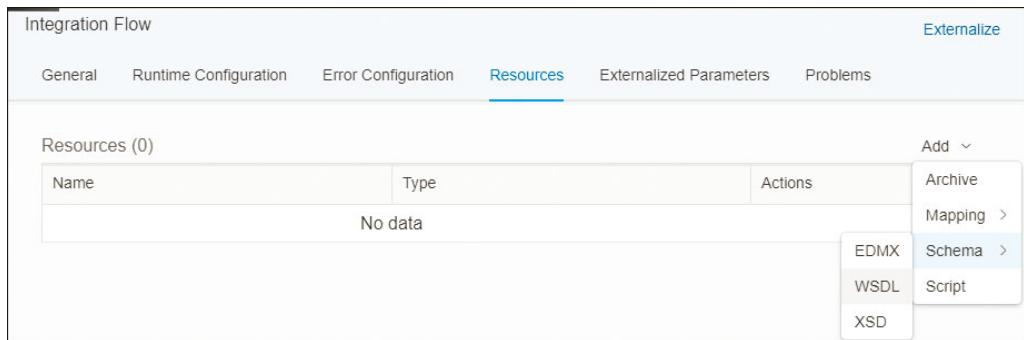

Figure 4.66 Adding an Object in the Resources View
3. Click the **Add** button. A menu appears from which you need to choose **Schema** and then **WSDL**, as shown in Figure 4.66.